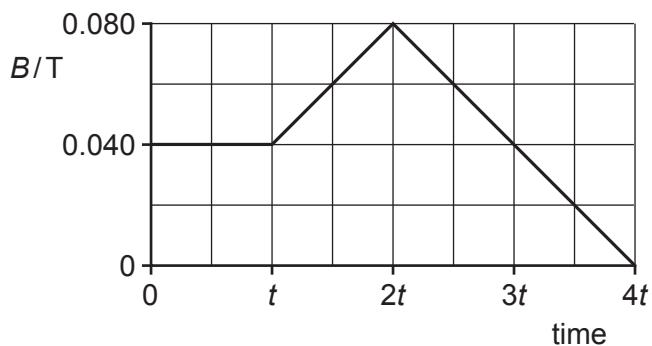

Fig. 6.3
- (iii) Coil C is now held stationary at X. The current in the solenoid varies so that the magnetic flux density B at X varies from time 0 to time $4t$ as shown in Fig. 6.3.